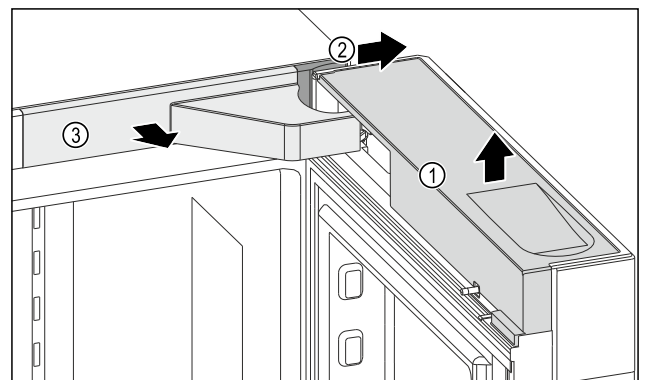

Fig. 10
- Remove the cover Fig. 10 (1).
- Remove the cover Fig. 10 (2).
- Remove the cover Fig. 10 (3).